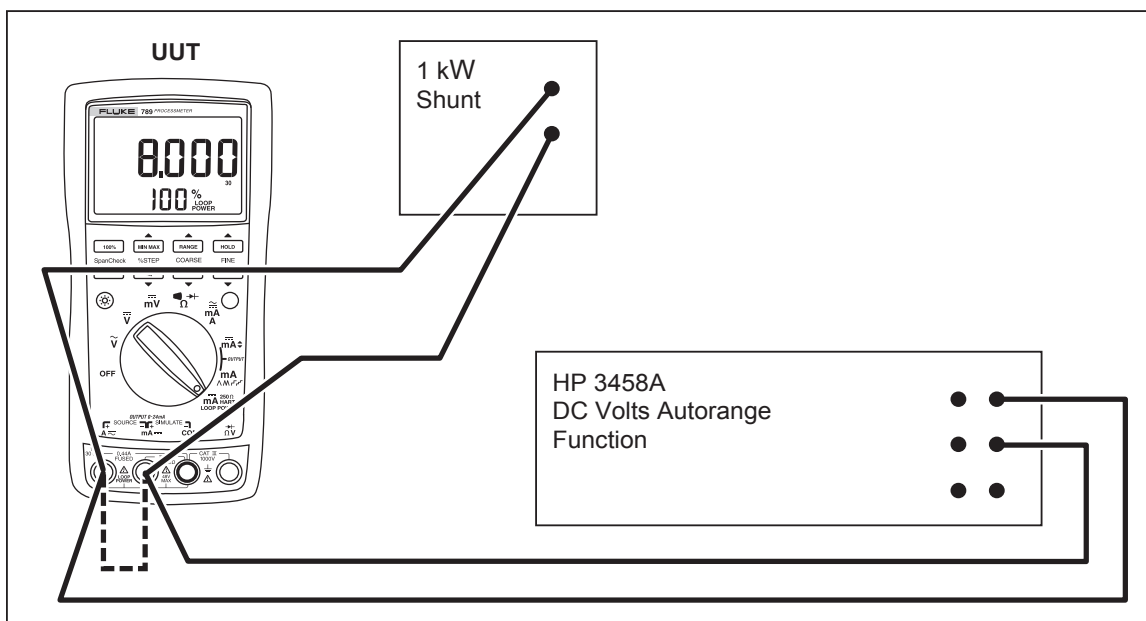

Figure 2. Verifying Loop Power
8. Measure the loaded down voltage and verify it is  $>23.8\text{ V}$  and  $<32\text{ V}$ , see Figure 2.